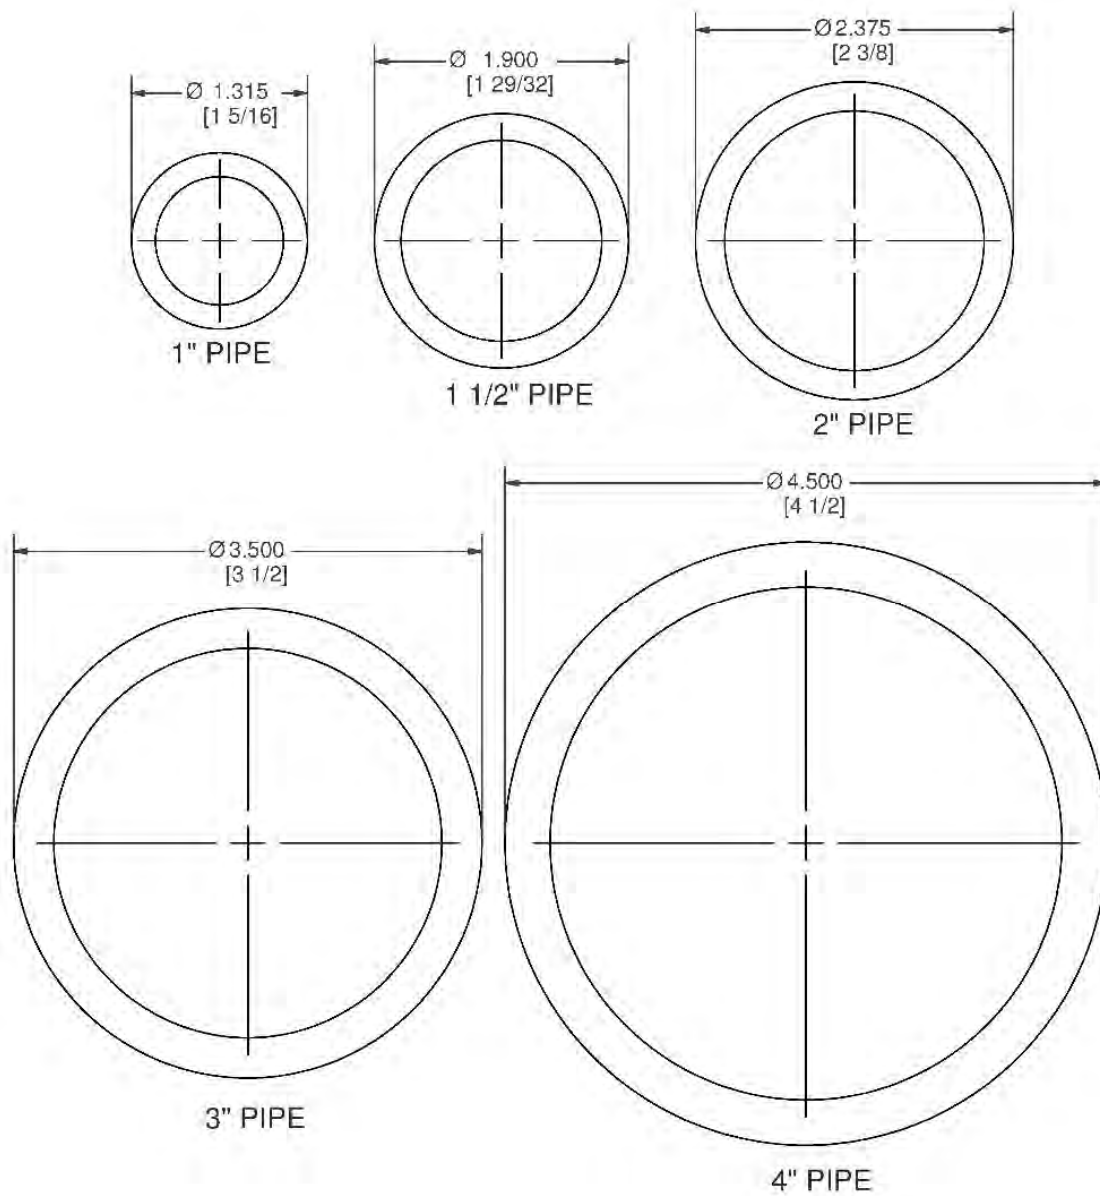

Figure 12
2. Line Pipe Size Method: Normally, the line pipe size is the same as the meter size. Figure 12 shows line pipe sizes.